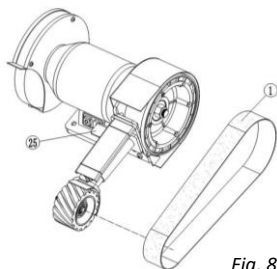

Fig. 8
2. Install the sanding belt (#1) (Fig. 8).